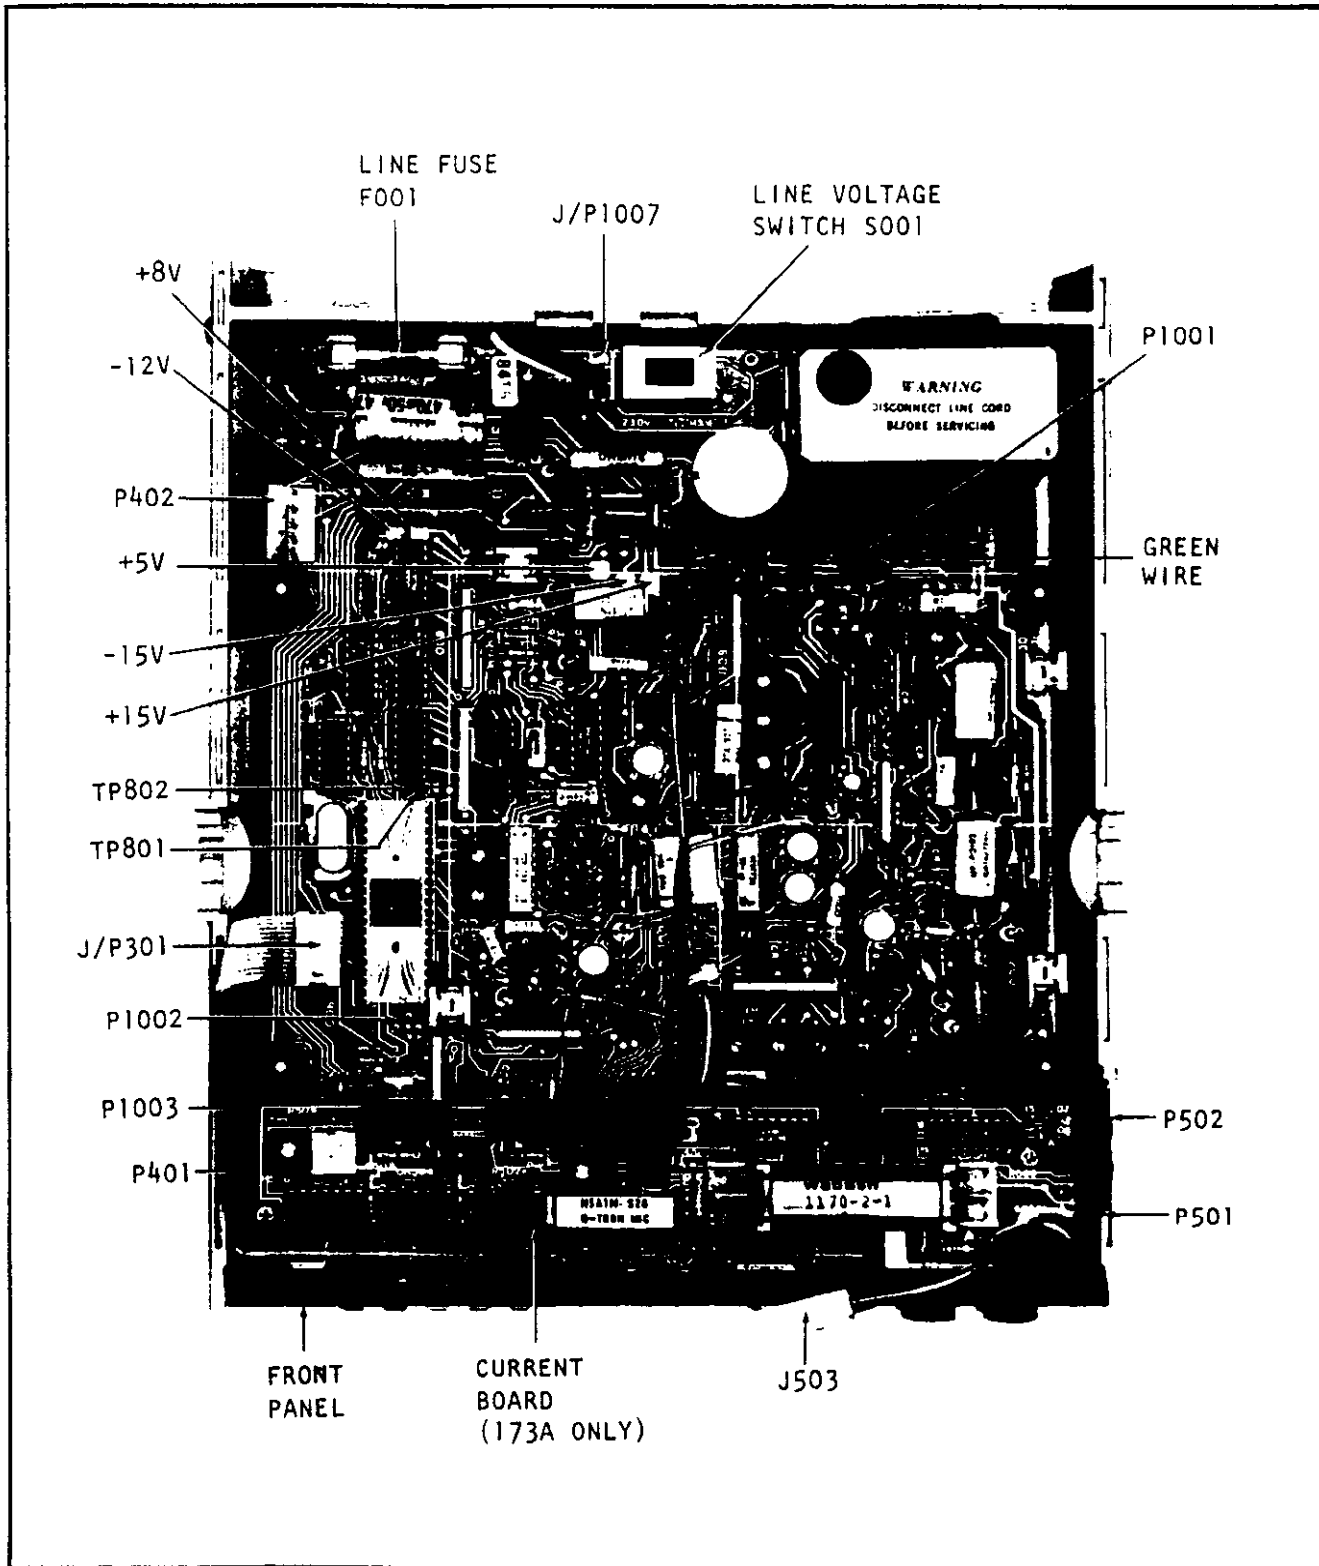

FIGURE 6-2. Location of Connectors and Test Points.
\* On main printed circuit board (See Figure 6-2 for location, and see sheet 3 of Schematic 29145E for circuit details).
2) Remove F001, shown Figure 6-2, and replace it with a 1/4A, 250V, 3AG SLO-BLO fuse (Keithley part number FU-17) for 117V line operation, or a 1/8A, 250V, 3AG SLO-BLO fuse (Keithley part number FU-20) for 230V line operation.